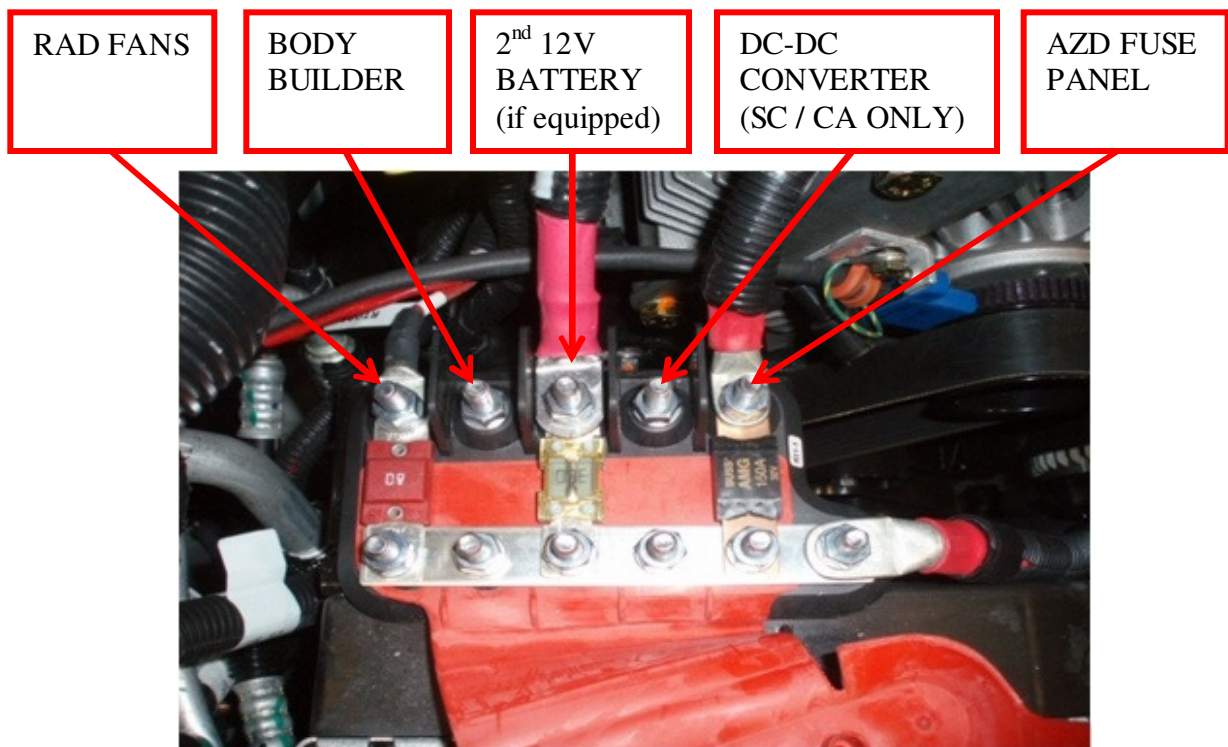

Figure 45: Underhood High Current Fuse Panel
- The appropriately sized Mega fuse is to be located in the AZD high current Fuse panel as indicated in Figure 45. A buss bar in place of a Mega fuse is not acceptable.